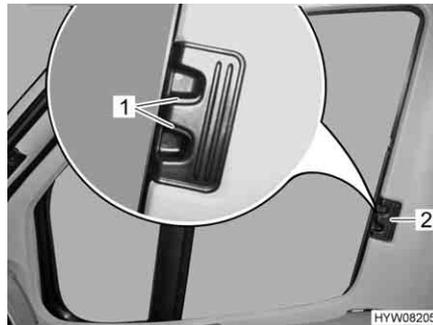

Fig. 7 Locking mechanism for Roman shades on driver's/front passenger's windows
- Use handle (Fig. 7,2) to push in the Roman shade as far as possible.
- Allow the release handles (Fig. 7,1) to engage.